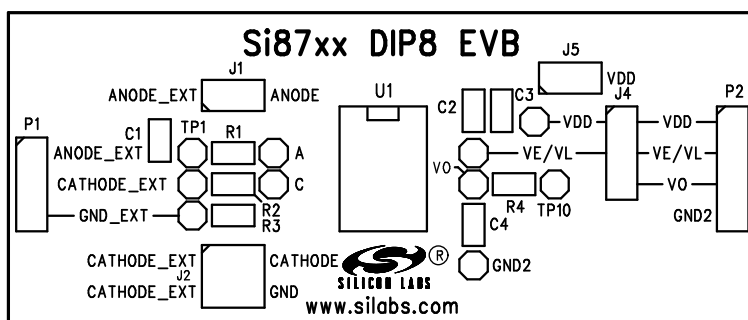
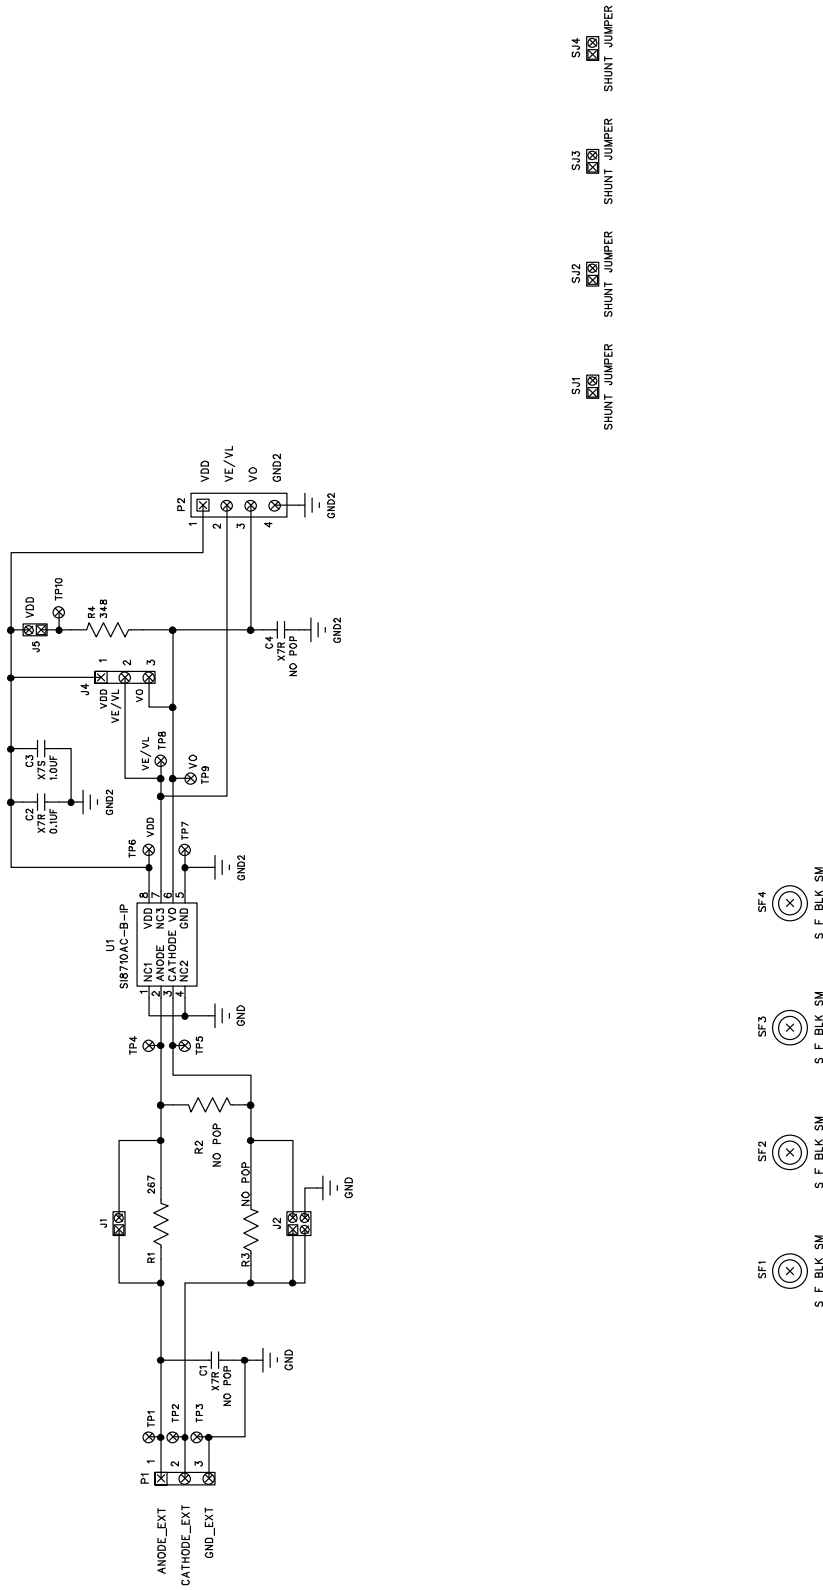

Figure 7. Si87xx DIP8 Evaluation Board Silkscreen
Figure 11. Si87xx DIP8 Evaluation Board Schematic
To run the demo, follow the instructions below. Review Figure 5 and Figures 11 through 14 if necessary.
The Si87xx evaluation board has several test points. These test points correspond to the respective pins on the Si87xx integrated circuits as well as other useful inspection points. See Figures 7 through 10 for a silkscreen overview. See schematics in Figures 11 through 14 for more details.
- Updated schematics in Figures 11, 12, 13, and 14.